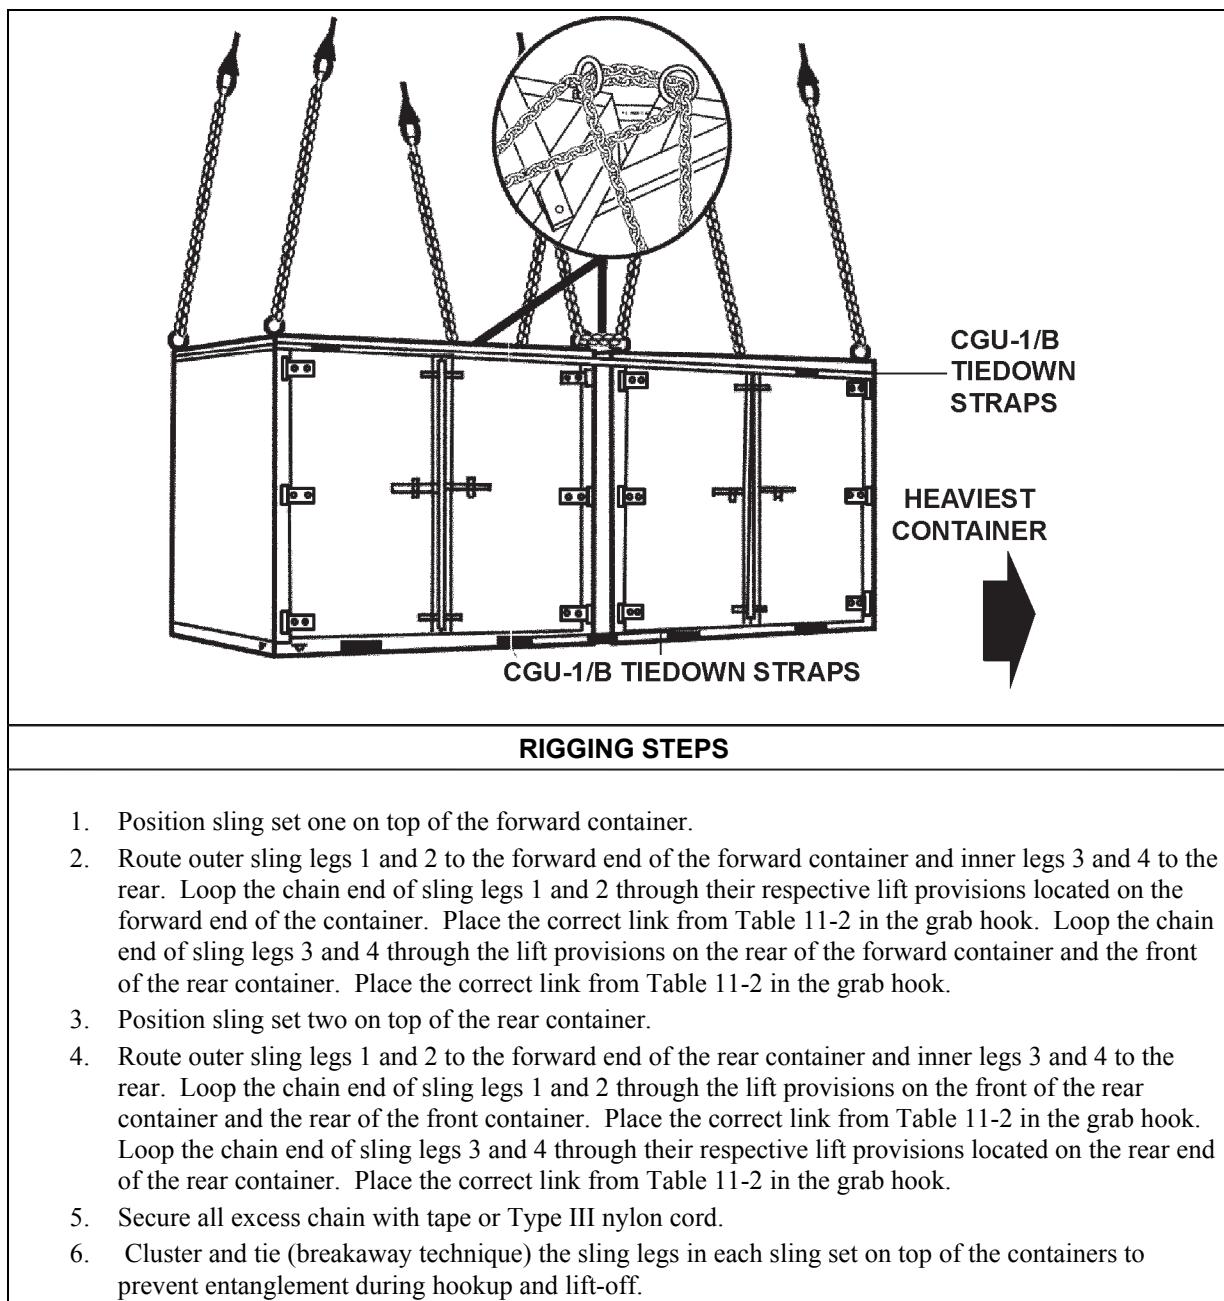

Figure 11-2. Two ISU-90 Shipping/Storage Containers
- **Rigging.** Rig the load according to the steps in Figure 11-2.